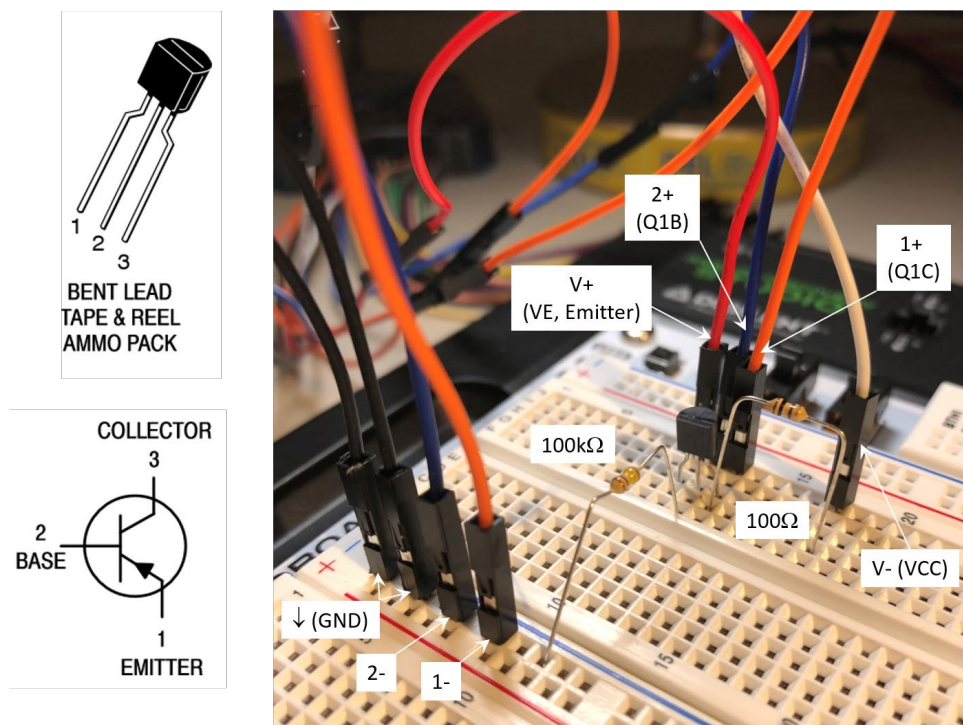

Fig. 4 Experimental setup for the DC characterization of a PNP-BJT 2N3906
2.5 As shown in Fig. 4, prepare the circuit using the same VE and VCC settings in Steps 2.2 to 2.4.